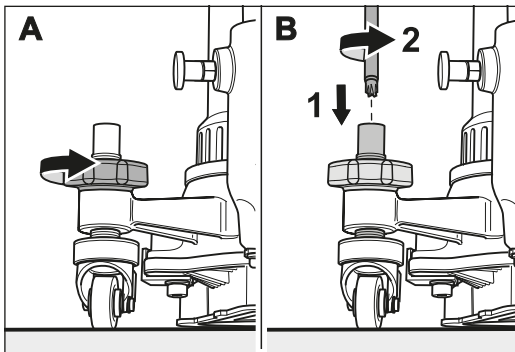

Fig. 56 Undo the locknut on the guide roller.
- 2 Loosen the locknut of the guide roller to be adjusted (fig. 56, A).
If the locknut is screwed on too tightly, you can turn the vertical guide roller axis counterclockwise with the universal spanner to loosen the locknut (fig. 56, B).
- 2 Loosen the locknut of the guide roller to be adjusted (fig. 56, **A**).
If the locknut is screwed on too tightly, you can turn the vertical guide roller axis counterclockwise with the universal spanner to loosen the locknut (fig. 56, **B**).
- Remove the locknut of the guide roller (fig. 56).